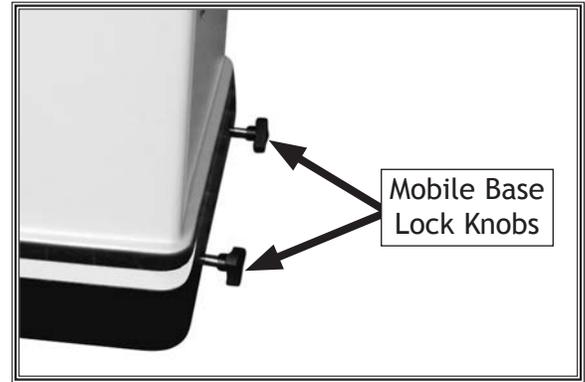

Figure 10. Location of mobile base lock knobs.
4. Tighten mobile base lock knobs (see **Figure 10**) so jointer will not easily move.